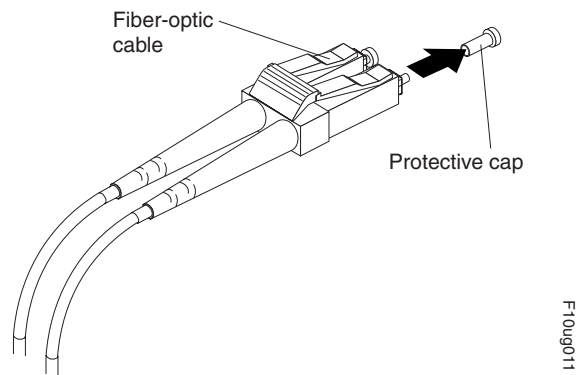

Figure 30. Removing caps from fiber-optic cables
1. Remove the protective cap from the fiber-optic cable. See Figure 30.